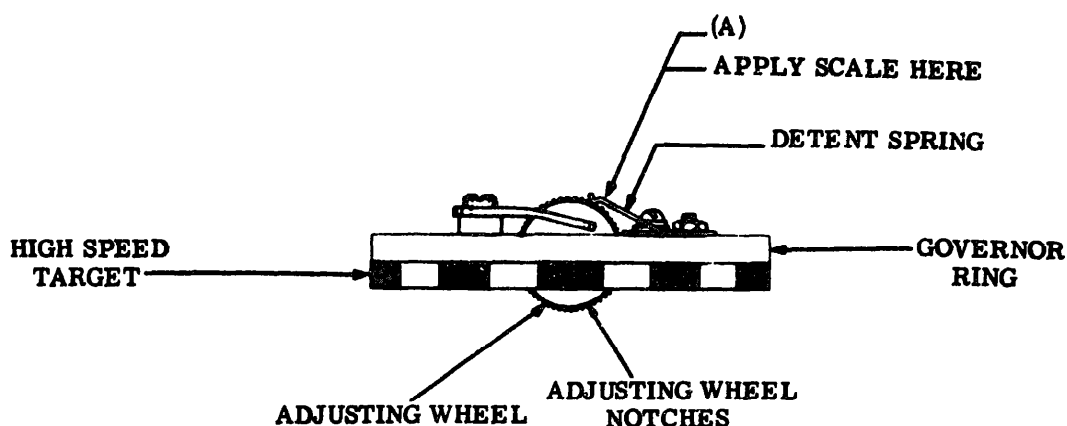

Figure 15 - Half of Two-speed, Edge-contacting Governor
(2) at the point of minimum pressure with a minimum 2-ounce, maximum 4-ounce pressure.
**To Gauge the Pressure:** With the detent spring resting between the notches on the adjusting wheel, hook the 8-ounce scale to the spring near the adjusting wheel as shown by (A) in Figure 15. With the scale in a horizontal position, pull at right angles to the spring. To determine the minimum pressure point, the check shall be made at three points approximately equally spaced around the periphery with the wheel in its final revolution at each end of its travel.
the detent spring as required. Position the spring on the wheel and tighten the screw and nut. (See Figure 15.)
held against the rings while the motor is in motion. To remove burned spots from the rings, a piece of 400A Aloxite held lightly against the rings while the motor is in motion, along with a KS-2423 cloth to immediately wipe off the cuttings and sand, may be used. (See Figure 15.)